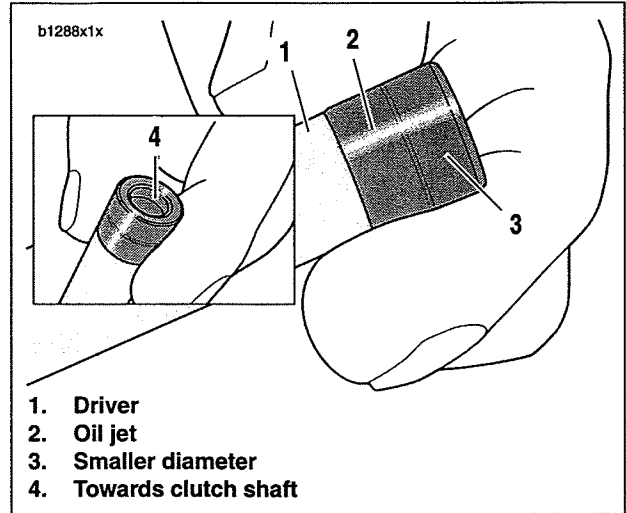

Figure 10. Oil Jet
- See Figure 10. Apply 2-3 drops of LOCTITE 648 (green) or equivalent onto the smaller outside diameter (3) of the oil jet.
See Figure 10. To install oil jet (2), use a driver (1) that has a larger diameter than the oil jet. The smaller diameter (3) of oil jet faces clutch shaft.